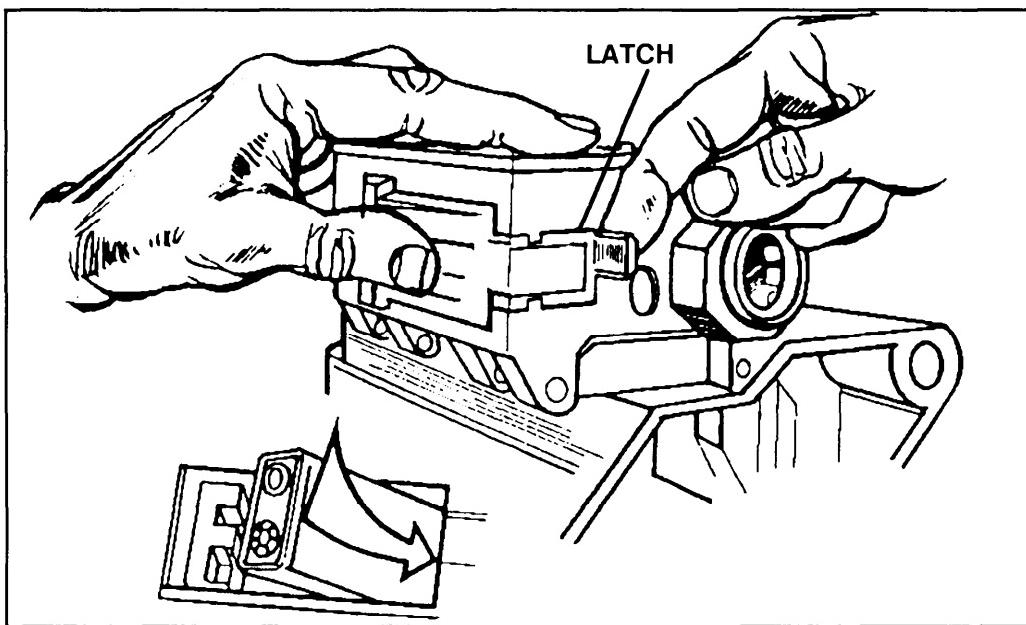

Figure B-4. Battery insertion.
b. Placing the Battery into the Transmitter. Use the correct battery (NSN 6135-01-063-1978, BA 3090/U, 9V, alkaline); it will last about 100 hours. Flip open the latch; open the battery door and insert the battery; press the door closed; then press the latch closed (Figure B-4).